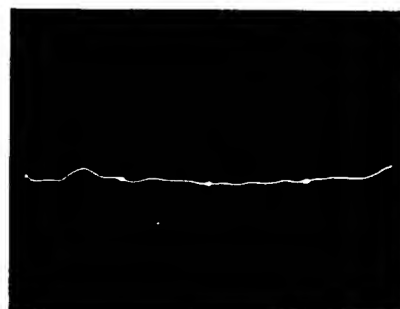

Figure 4-16. Typical Display
- j. Oscilloscope display should be similar to typical display shown in Figure 4-16.